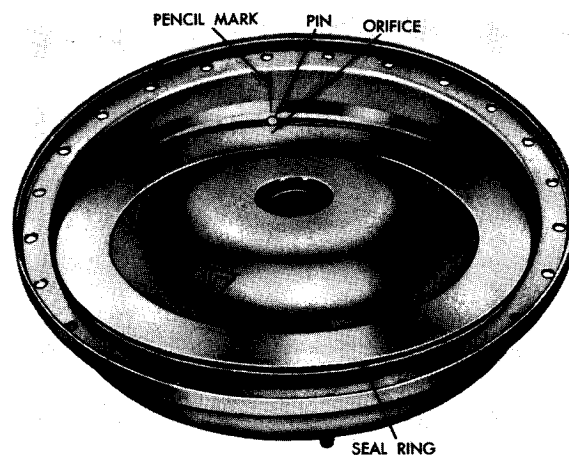
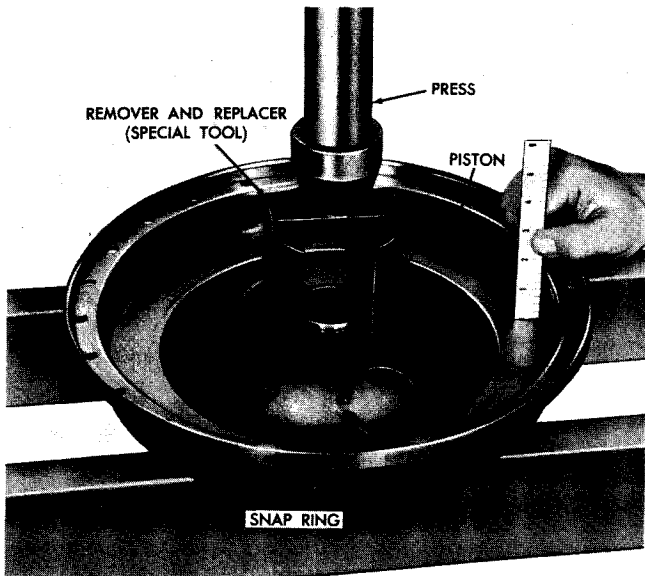

Fig. IX-6 Positioning lockup clutch piston assembly
Fig. IX-7 Installing lockup clutch piston assembly
(2) If removed, install seal ring retainer 3, on converter pump cover 1 hub with larger diameter toward open end (rear) of cover. Install oil seal ring 4 into the retainer.
(3) Install piston seal ring 6 into outer groove of lockup clutch piston 5.
(4) Insert lockup clutch piston (fig. IX-6) into the converter pump cover, with the stamped balance marks (if any) alined so that piston guide pins will enter the nearest holes in the piston.
Note: To make installation of the lockup clutch piston assembly easier, put a pencil mark in line with the pin nearest the orifice in the piston (when balance marks are alined as in fig. IX-6). Then when the piston assembly is being installed, use the pencil mark as a guide to the location of the pin beneath the orifice. One recessed hole in the piston is concentric with the orifice. Rotate the piston slightly, if necessary, during installation to insure that the piston engages the pins. To make certain that the piston is properly seated, measure the distance from the pump cover mounting surface to the piston. This distance should be approximately 1 1/2 inches (fig. IX-7).
(5) Place the converter pump cover (fig. IX-7) on wood blocks to prevent damage to the threads on studs by the press table. Using remover and replacer sleeve, compress the center of the piston only enough to install the snap ring.